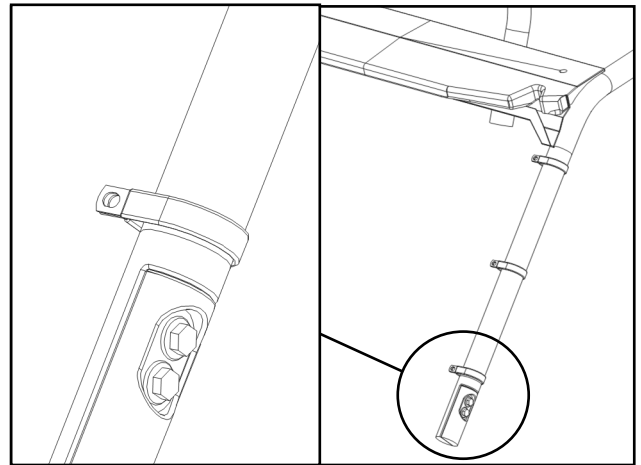

Fig. 1.1 (P-Clamp Orientation)
- 1.1 Per figure 1.1, orient (3) of the supplied rubber coated P-clamps around the left ROPS A-pillar.